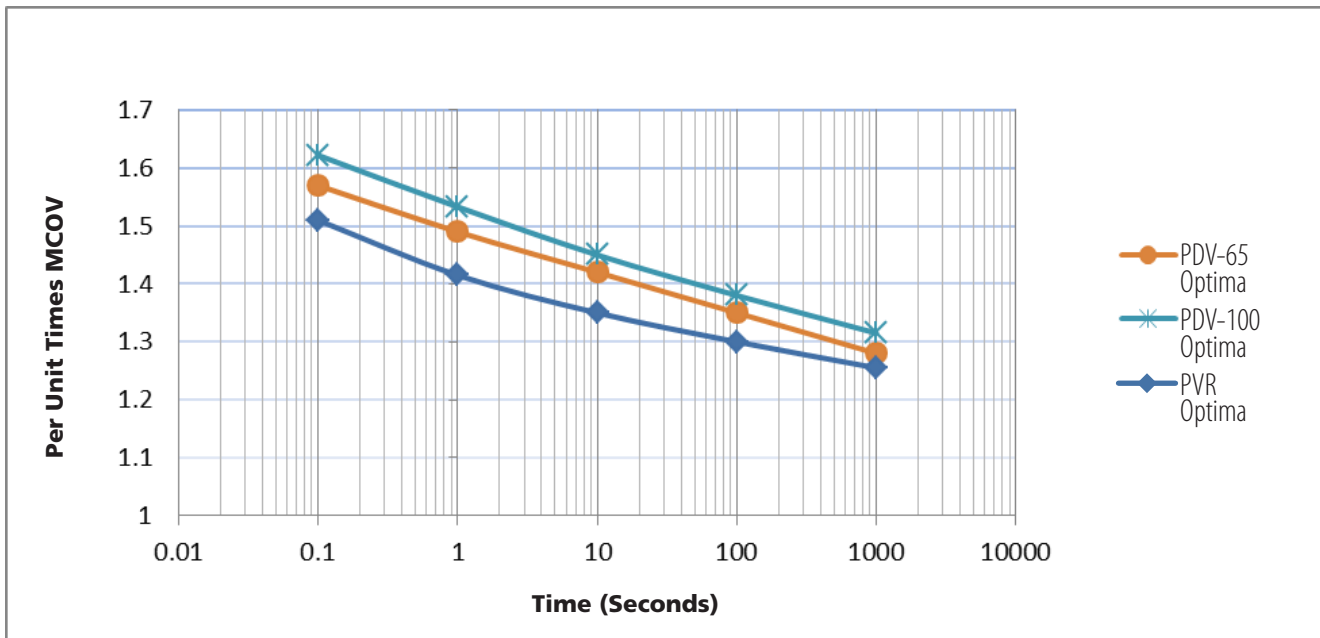

Figure 5: IEEE TOV Capability with no bracket, No Prior Duty
6. Power Frequency Voltage versus Time Characteristics: Power systems are not ideal and periodically have temporary over voltages (TOV) caused by a variety of reasons. During TOV instances on the system, the arrester can see elevated voltages and therefore higher 60Hz current through the unit. The magnitude and duration of the system-generated TOV that the arrester can withstand is best expressed graphically. The three curves in Figure 5 show the TOV capability versus time for the Hubbell arresters in this catalog. The Optima utilizes a capacitance-based isolator which improves the TOV capability while increasing the reliability of disconnecter function. The Optima technology results in a family of TOV curves that are a function of the MCOV of the arrester.